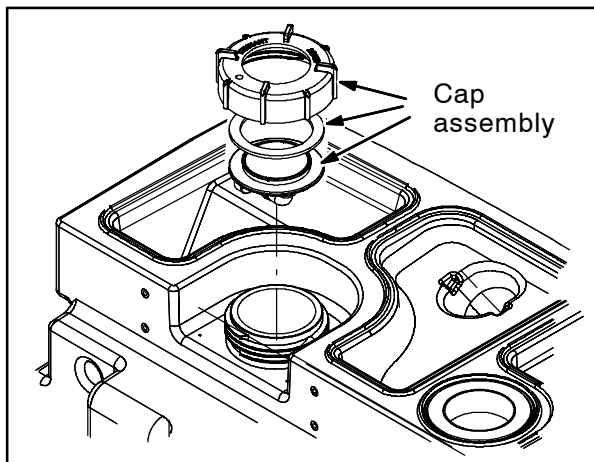

FIG. 2
3. Install the cap assembly onto the recovery tank. Refer to Fig. 2.